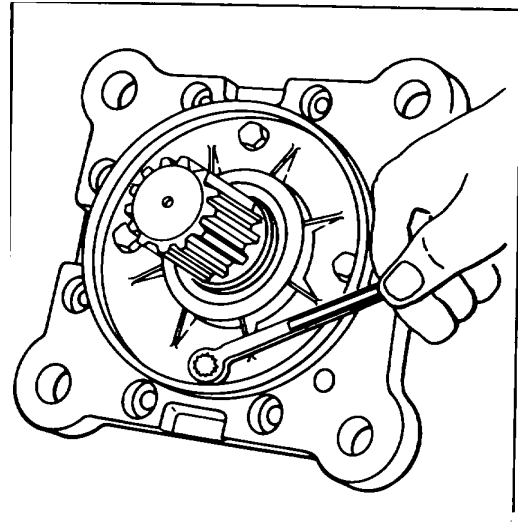

Figure 209.
5. Wrap slim stock or other thin material around shaft spline and carefully slide shaft seal (59) and retainer (60) into place over motor shaft (1).
6. Secure seal retainer (60) with hex bolts (48) and Lock washers (47) Torque to 132 In. lbs. See Fig 209.